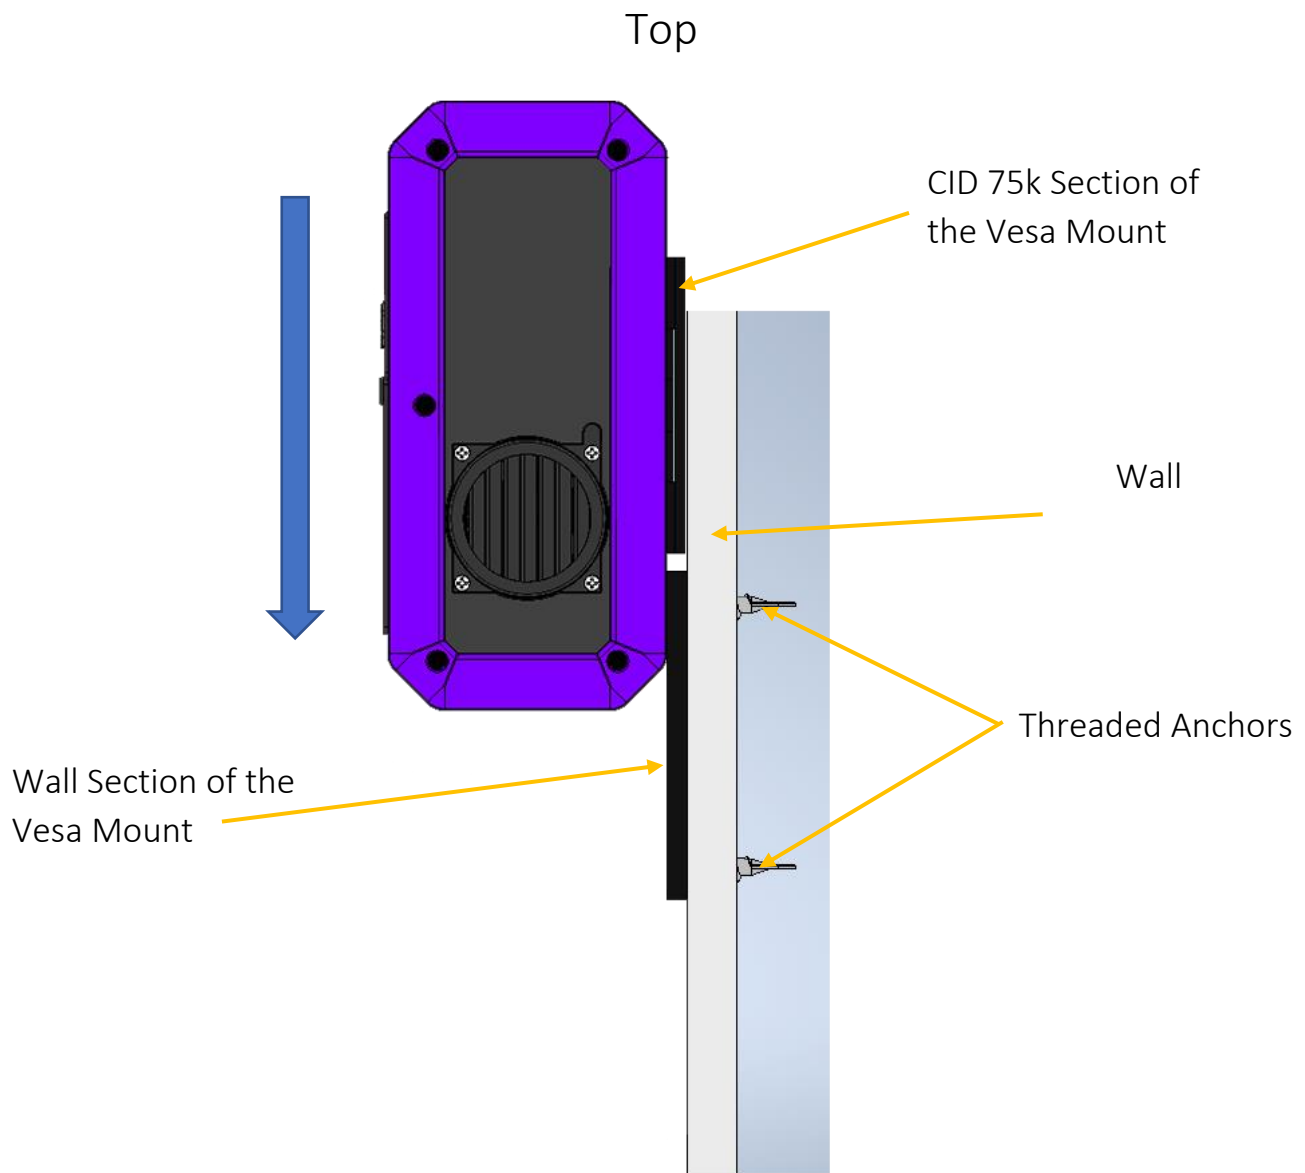

Fig 2.
8. Once the mount is secured to the wall, align the section of the mount on the back of the CID 75k so that it slides down from the top onto the section of the mount that is mounted on the wall as shown in Fig 2. The CID 75k will slide down onto the wall mounted section from the top.
## 12 Installation Procedure Fig 2